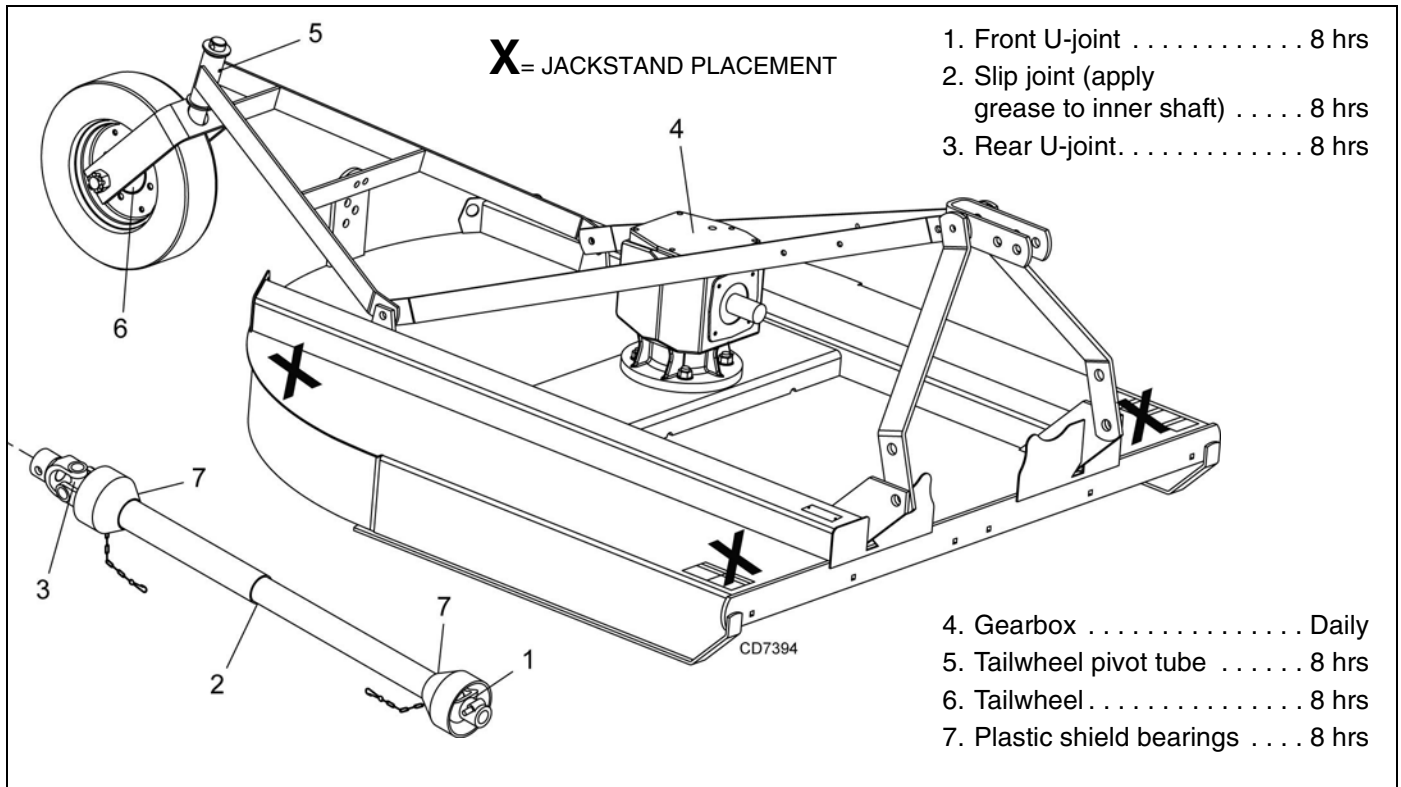

Figure 11. Jackstand Placement and Lubrication Points
1. Jackstands with a load rating of 1000 lbs or more are the only approved blocking device for this cutter. Install a minimum of four jackstands (shown by Xs in Figure 11) under each corner of the cutter before working underneath unit.
2. See Figure 11 for lubrication points and frequency of lubrication based on normal operating conditions. Severe or unusual conditions may require more frequent lubrication.
2. Raise cutter and block securely (see Figure 11).
- Align crossbar (8) with blade access hole in cutter frame. Apply a liberal coating of Never Seez[®] or equivalent to blade pin and crossbar hole. Make sure blade offset is away from cutter. Push blade pin through crossbar.
- Insert lock washer (15) and nut (14) through blade access hole in the cutter frame. Install on blade pin (12) and tighten to 450 lbs-ft using a 1-11/16" socket.